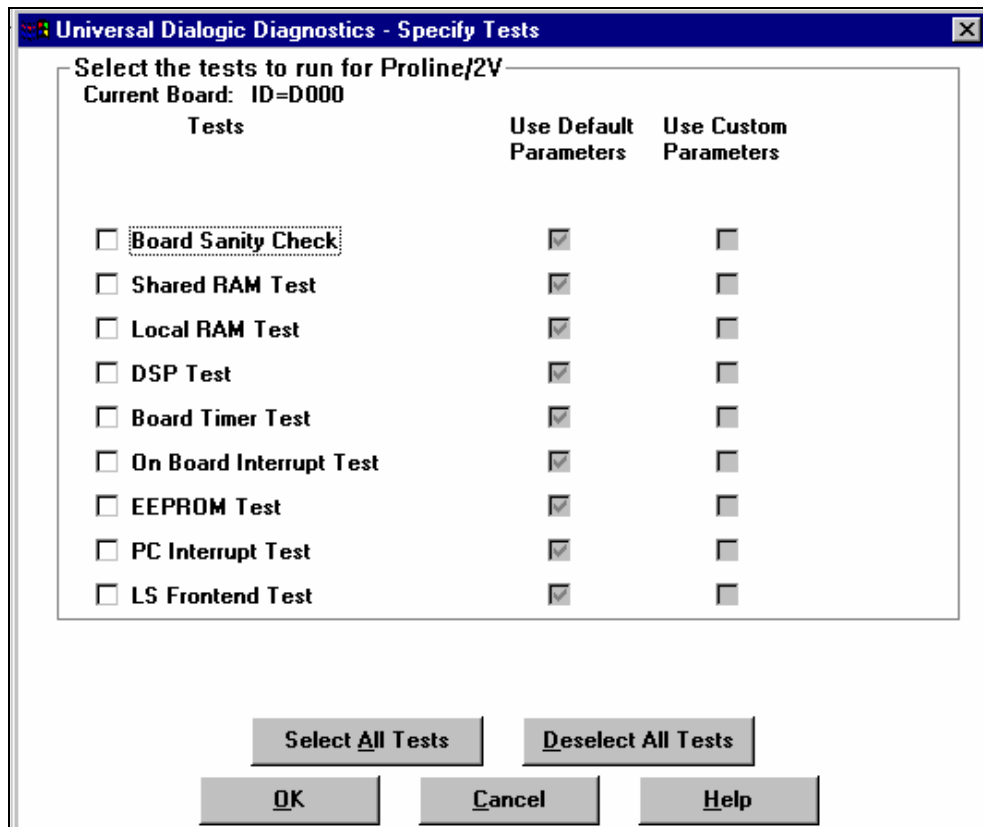

Figure B.21. Specifying Diagnostics Tests for the Card
3. This opens the **Specify Tests** dialog box, shown in **Figure B.21**. Choose the appropriate tests from the list, and then click **OK**.